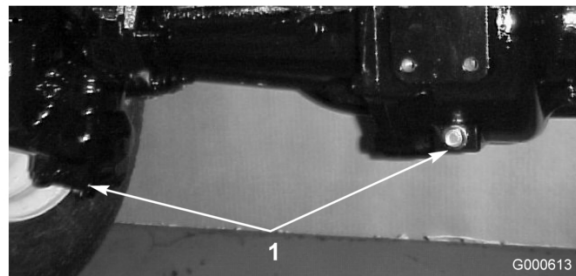

Figure 45
- Clean the area around the 3 drain plugs, 1 on each end and 1 in the center (Figure 45).